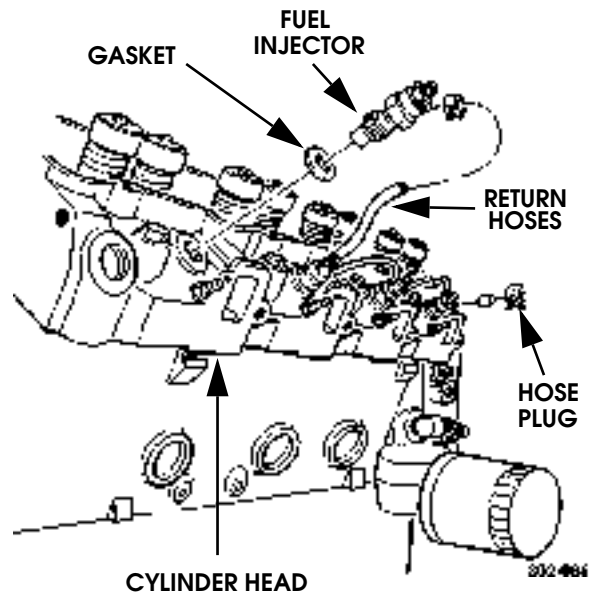

Figure 2-79: Fuel Injector Removal
1. Remove fuel return hoses and clamps from injectors (Figure 2-79).
2. Remove fuel injectors and gaskets (Figure 2-79).